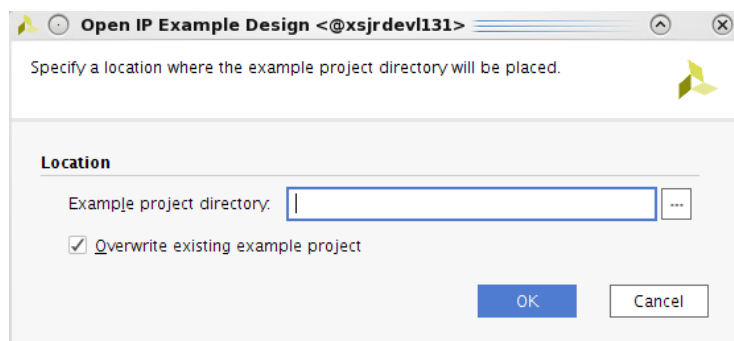

Figure 5-8: Example Project Directory
- Choose **Example project directory** (Figure 5-8) and click **OK**.